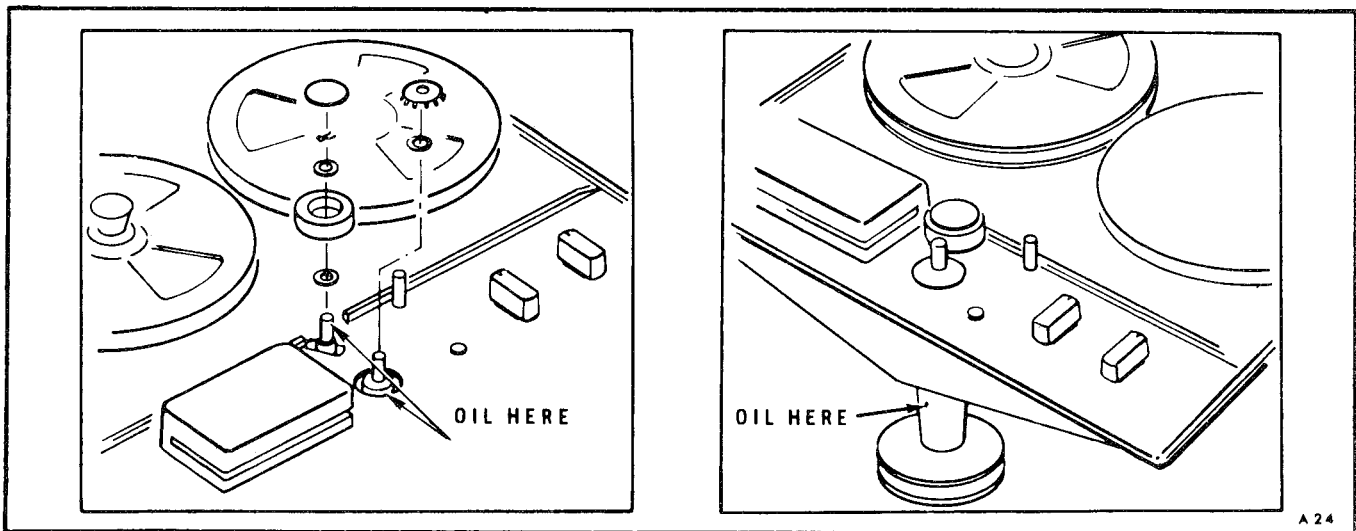

Figure 4-1. Capstan and Idler Bearing Lubrication
(See Figure 4-1)
Step 7: Lubricate the capstan lower bearing through the oil hole (see Figure 4-1) with exactly four drops of oil.